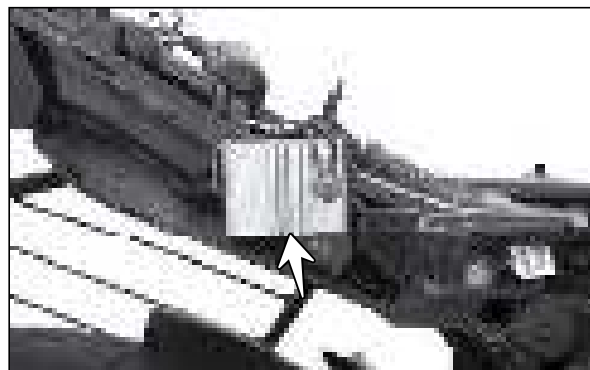

Fig. 5.20
- The RR unit (regulator cum rectifier) is fitted below the seat assembly near the tail lamp assembly. (Fig. 5.20)